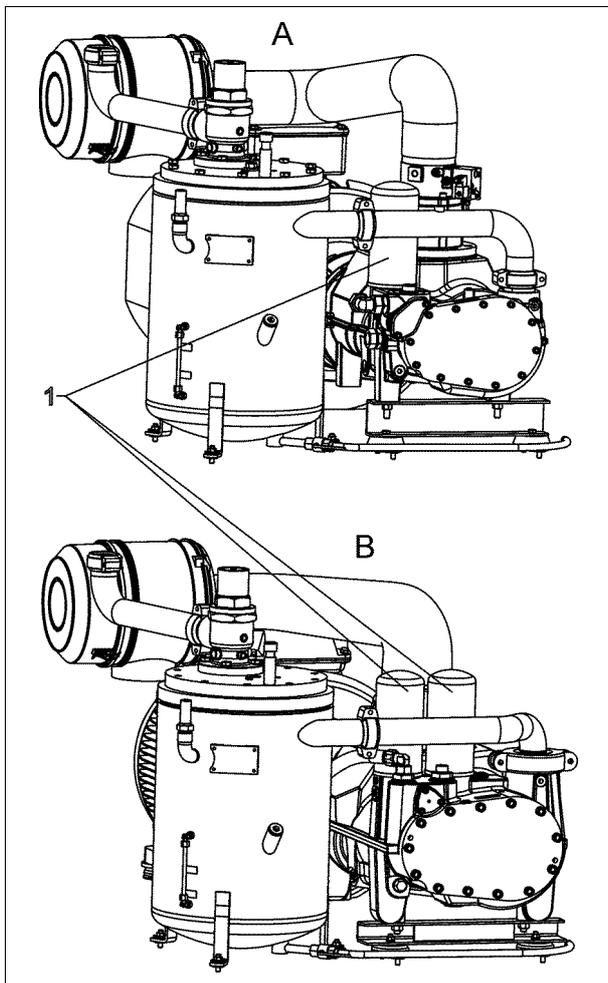

Fig. 20
- Unscrew the oil filter cartridge ( - 1 - Fig. 20) using an appropriate tool